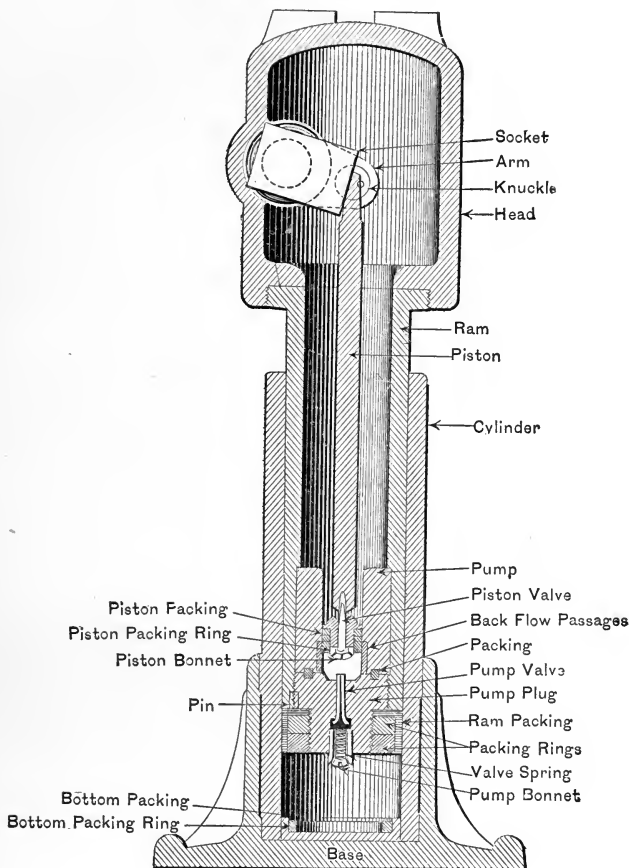

FIG. 52.
A. The former has the lever, socket, etc., at the top of the jack, while the latter has the working parts near the base. (See Figs. 52 and 53.)
piston-valve, pump, pump-valve, lowering-valve, packing-springs, etc. (See Figs. 52 and 53.)